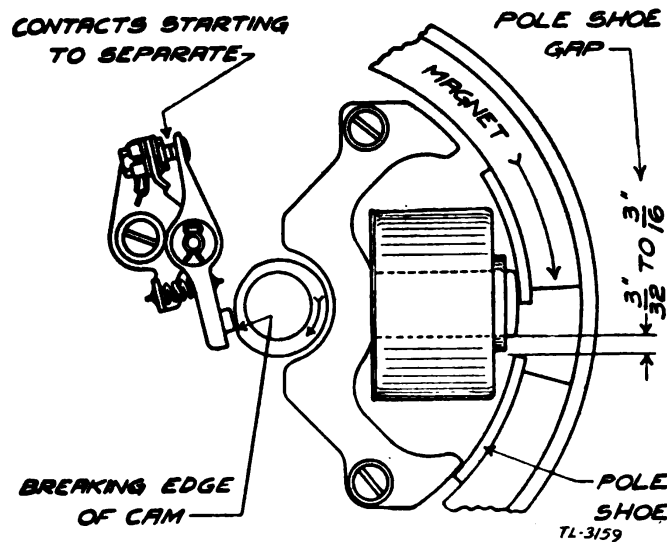

FIGURE 22.—Contact point interruption and pole shoe gap synchronism.
(3) *Setting timing of magneto.*—The synchronism of the breaker point interruption and the pole shoe gap is illustrated in figure 22. At the instant of the spark, which occurs when the breaker points first separate, the edge of the leading pole shoe should be from $\frac{3}{32}$ inch to $\frac{3}{16}$ inch away from the center leg of the winding core in the direction of rotation, with the edge of the trailing pole shoe centered over the winding. It is vitally important to maintain the correct pole shoe gap, and this can be accomplished only by maintaining the breaker point opening within the specified limits of 0.018 inch to 0.022 inch inclusive. If the breaker point opening is adjusted to less than 0.018 inch the effect is to increase the pole shoe gap, and if the breaker point